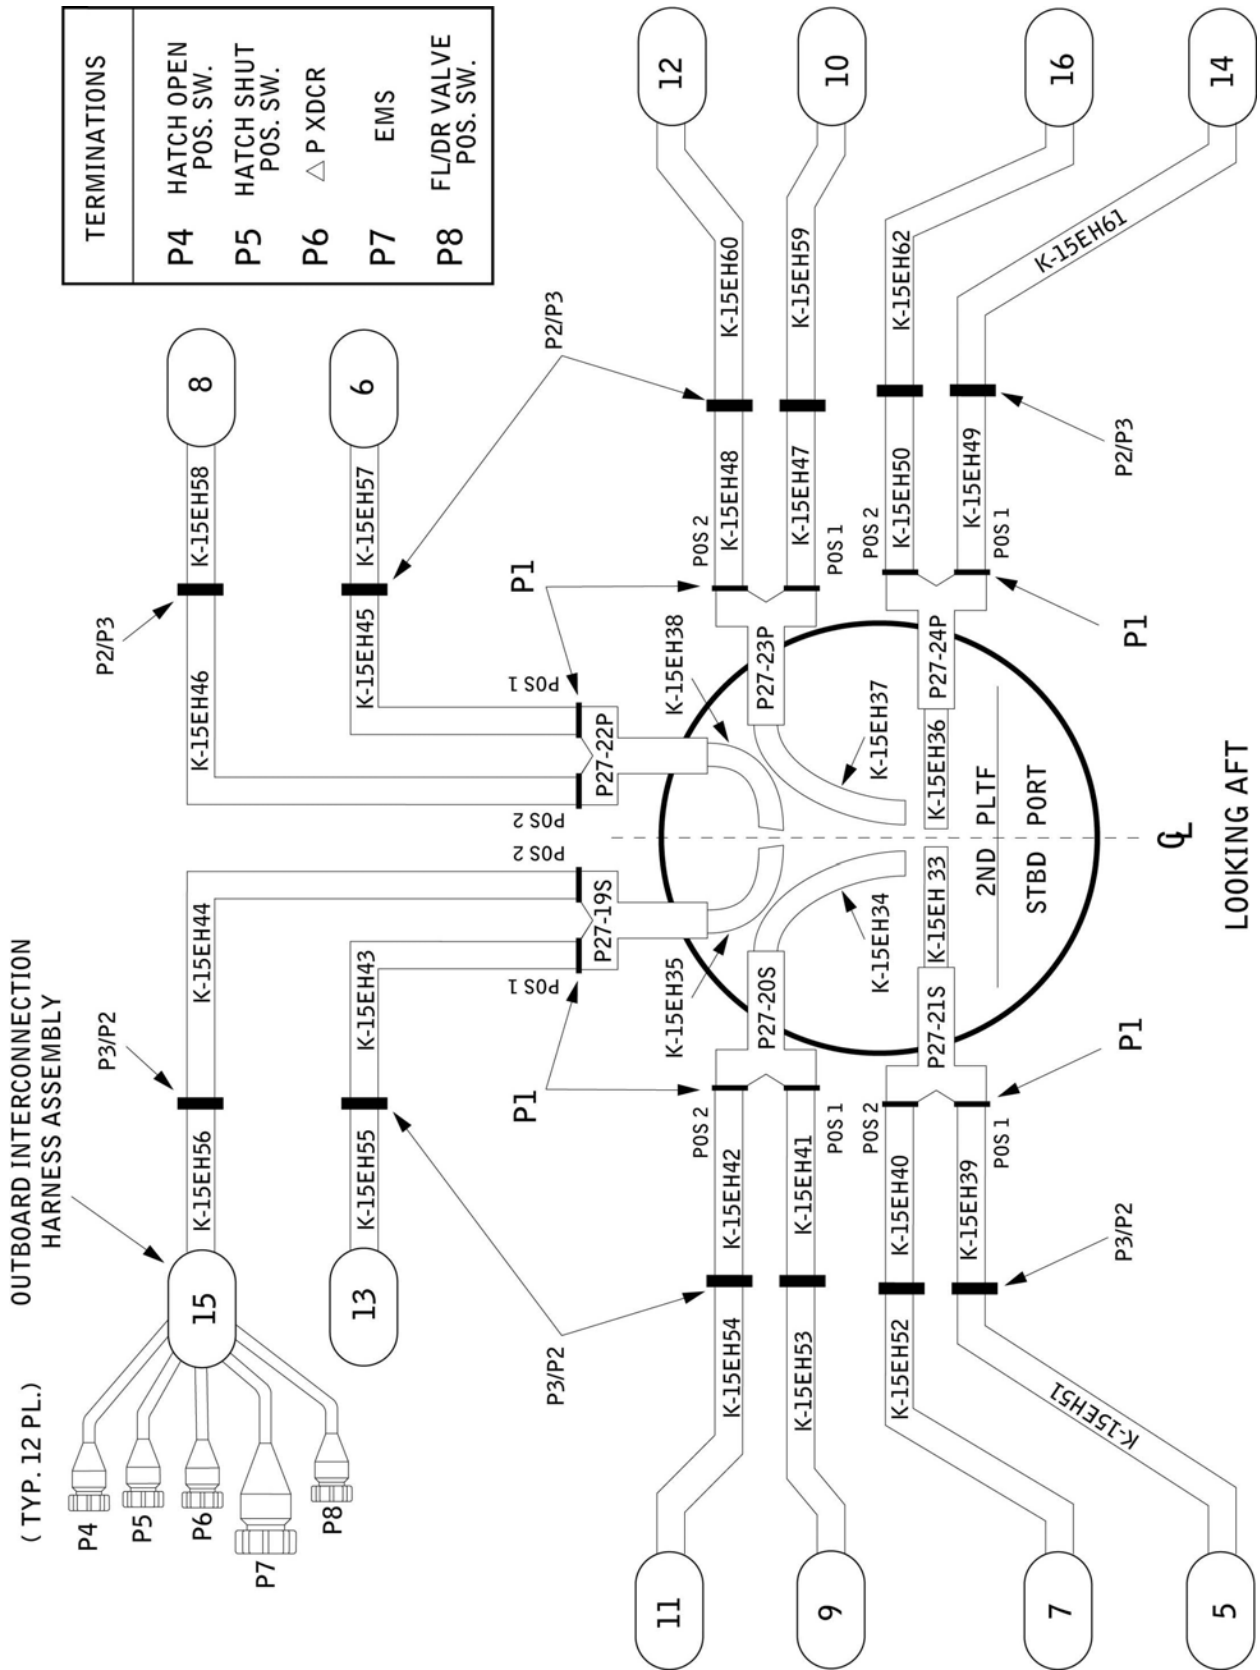
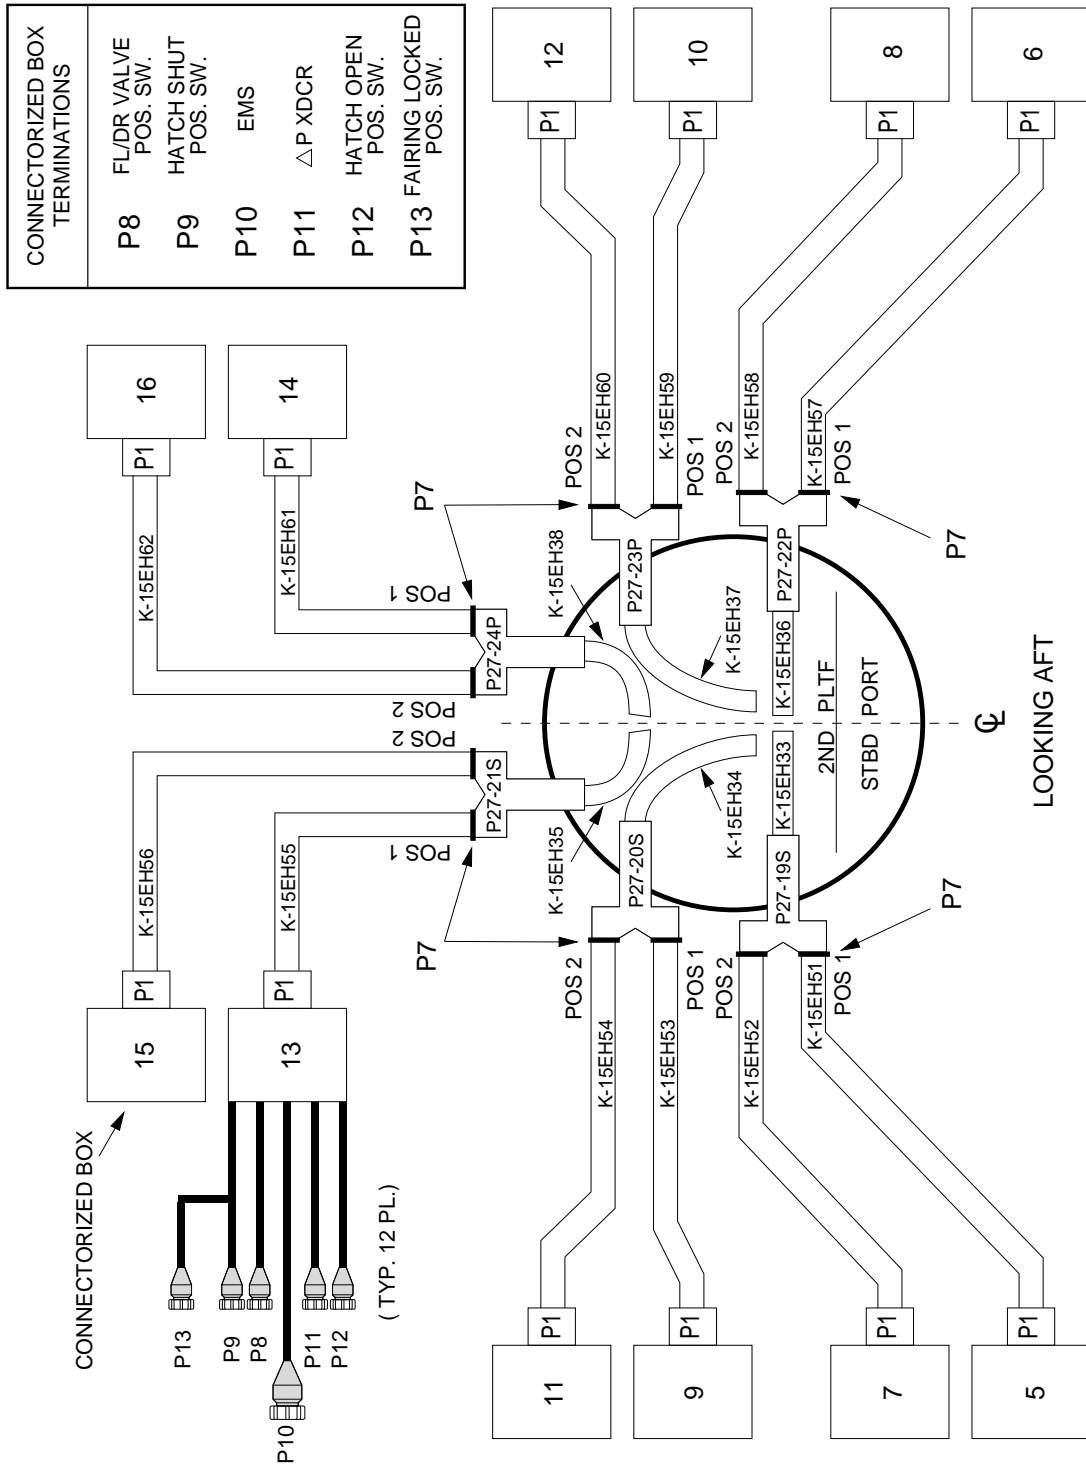
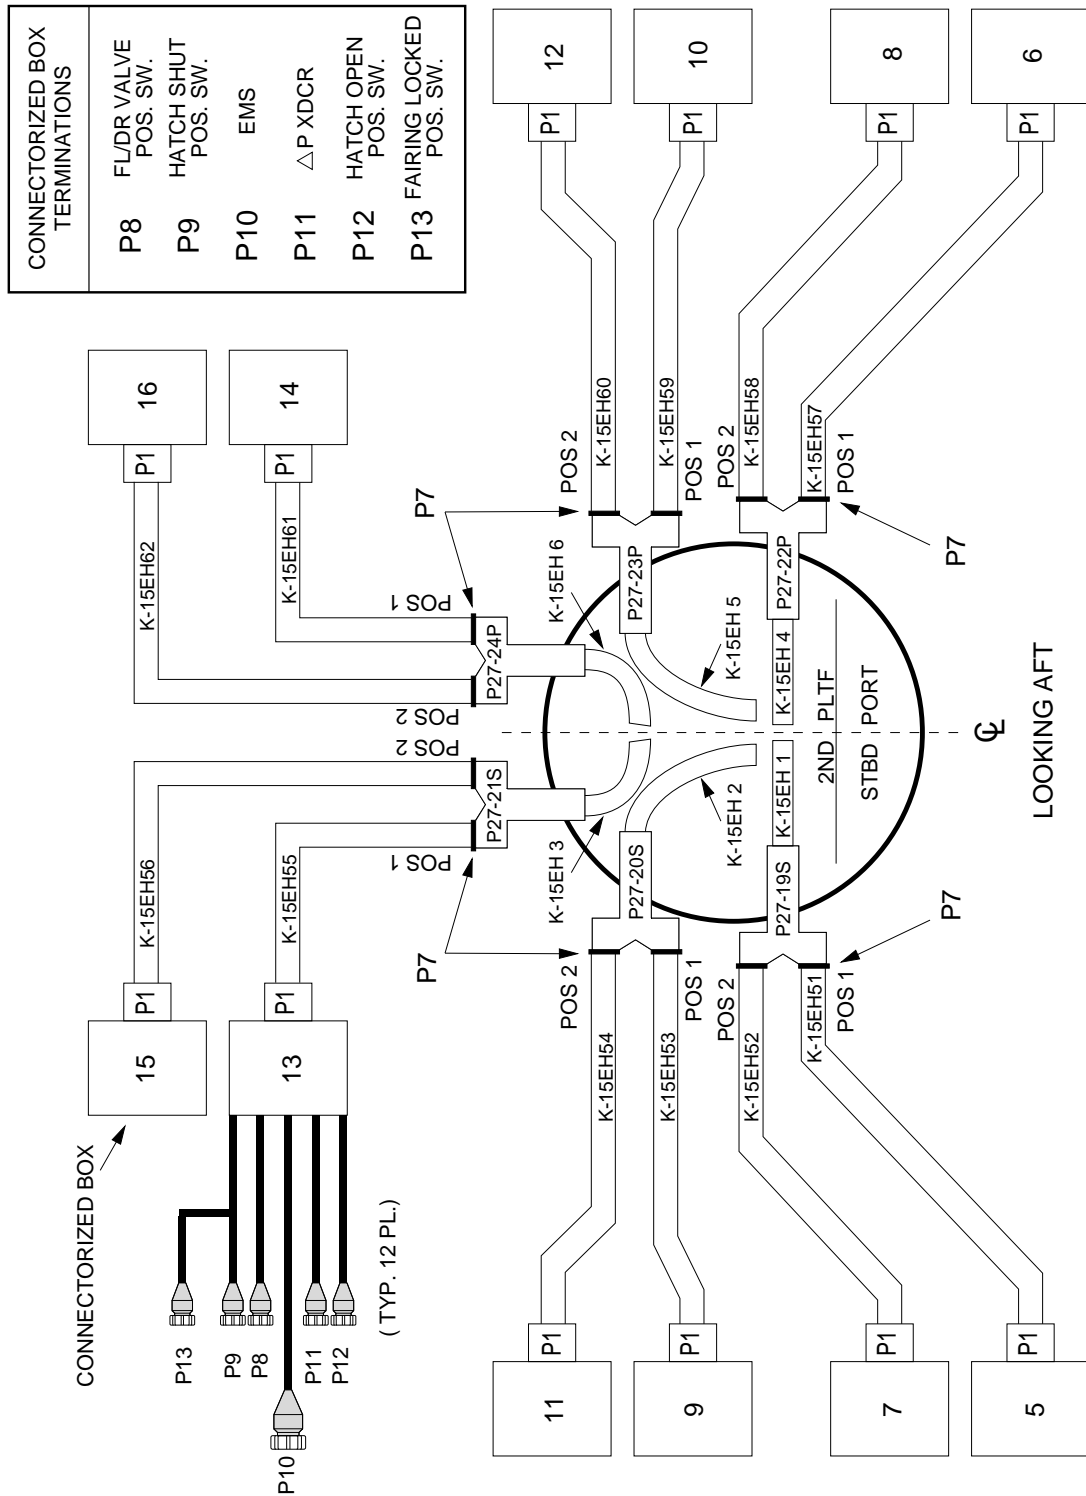

Figure 5-4-3. SSN 719 and 720 K-15EH Circuit
Figure 5-4-4. SSN 721 thru 725 and 750 K-15EH Circuit
Figure 5-4-5. SSN 751 and Later K-15EH Circuit
- (1) Reconnect the inboard cable to the EHP in accordance with current shipboard instruction.
- (2) Position the TCP Alarm Override switches for both tubes to ALM ENBL position.
- (3) Clear tagout in accordance with current shipboard instruction.
- (4) Further troubleshooting of outboard components will be required upon return to port.
- g. (SSN 719 and 720 Only) Disconnect the missile tube control cable Outboard Interconnection Harness Assembly. Refer to Figure 5-4-3. (Refer to paragraph 5-5-27 for Outboard Cable Unmating).
- h. (SSN 721 and Later) Disconnect the missile tube control cable (P1), connector from the connectorized box. Refer to Figure 5-4-4 and Figure 5-4-5. (Refer to paragraph 5-5-27 for Outboard Cable Unmating).
- (1) If the EHP and missile tube control cable has a fault complete troubleshooting in accordance with CHAPTER 5 missile tube control cable replacement procedure.
- (2) If the EHP and missile tube control cable did not have a fault continue with procedure.
- k. (SSN 719 and 720) Disconnect the suspect component and perform an insulation resistance test (using 500 volts), pin-to-pin and pin to ground from the component connector back to the P3 connector. Acceptance criteria is 5 MegOhms minimum. Refer to Figure 5-4-3.
- (1) If the Interconnection Harness Assembly has a fault, replace Interconnection Harness Assembly in accordance with CHAPTER 5.
- (2) If the Interconnection Harness Assembly did not have a fault continue with procedure.
- l. (SSN 721 and Later) Disconnect the suspect component cable from the connectorized box and perform an insulation resistance test (using 500 volts), pin-to-pin and pin to ground on the connectorized box. Acceptance criteria is 5 MegOhms minimum. Refer to Figure 5-4-4 or Figure 5-4-5. (Refer to paragraph 5-5-27 for Outboard Cable Unmating).
- (1) If the connectorized box has a fault, replace connectorized box and retest.
- (2) If the connectorized box did not have a fault, continue with procedure.
- m. (SSN 721 and Later) Disconnect the suspect component and perform an insulation resistance test (using 500 volts), pin-to-pin and pin to ground from the component connector back to the connectorized box end of the outboard cable assembly. Acceptance criteria is 5 MegOhms minimum. Refer to Figure 5-4-4 or Figure 5-4-5. (Refer to paragraph 5-5-27 for Outboard Cable Unmating).
- (1) If the outboard cable assembly has a fault, replace outboard cable assembly and retest.
- (2) If the outboard cable assembly did not have a fault, continue with procedure.